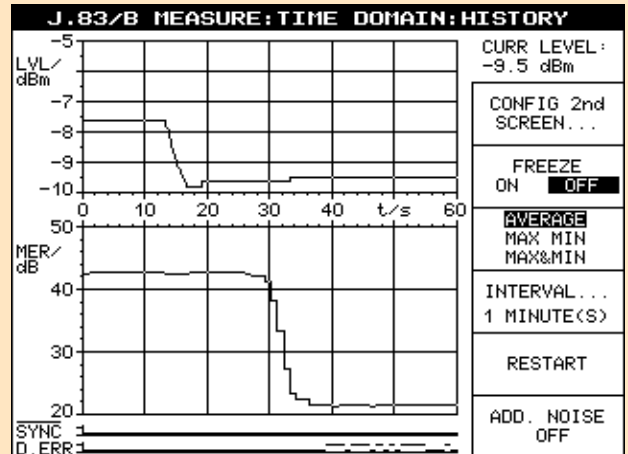

Fig. 24: Monitoring/Alarm register
- ◆ Alarm monitoring window (Fig. 24)